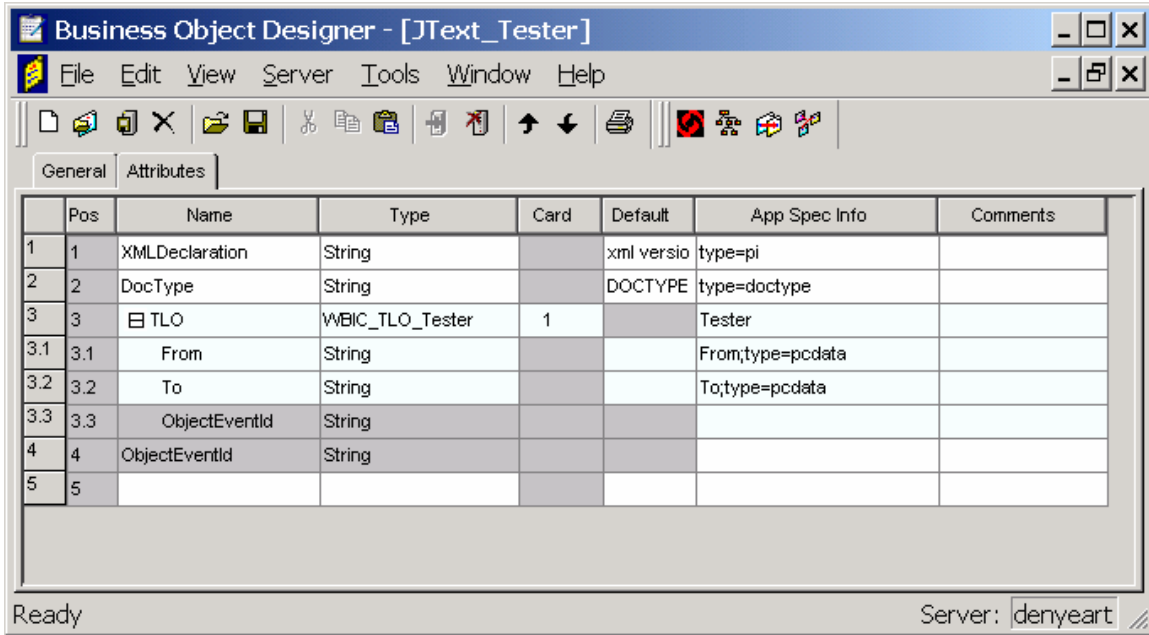

Figure 20. Sample JText adapter XML business object
3. Modify the business object that represents the document to be traded so that it uses a JText dynamic meta-object (optional) instead of the TPI route-info meta-object. See Figure 19 and Figure 20 for samples of a business object for the TPI adapter and the equivalent business object for the JText adapter.